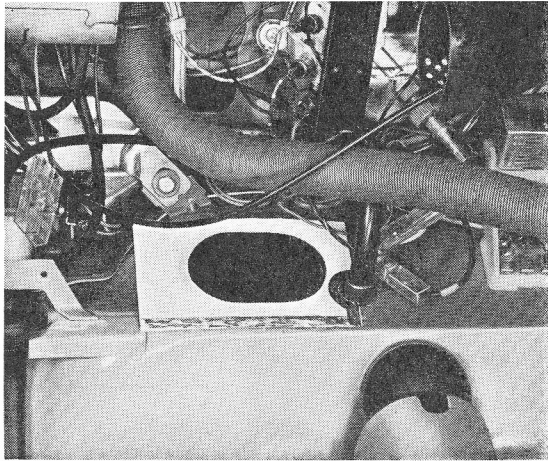

Figure 6
- 7 – Place template for intake elbow in position and mark out and cut hole (Figure 6).